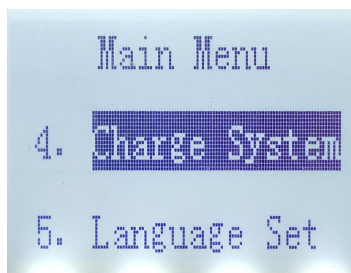

Figure 17
(1) Press Triangle Down button to select charging system test, as shown in Figure 17: